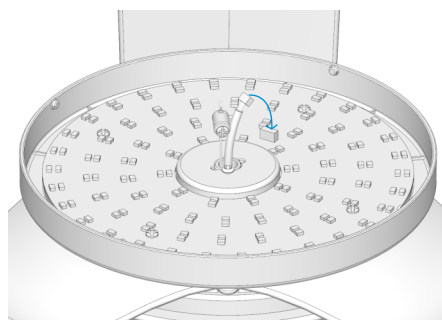

Fig. 2.2
2.3 Connect the wire plug to the light kit's terminal block as demonstrated in Fig. 2.2.